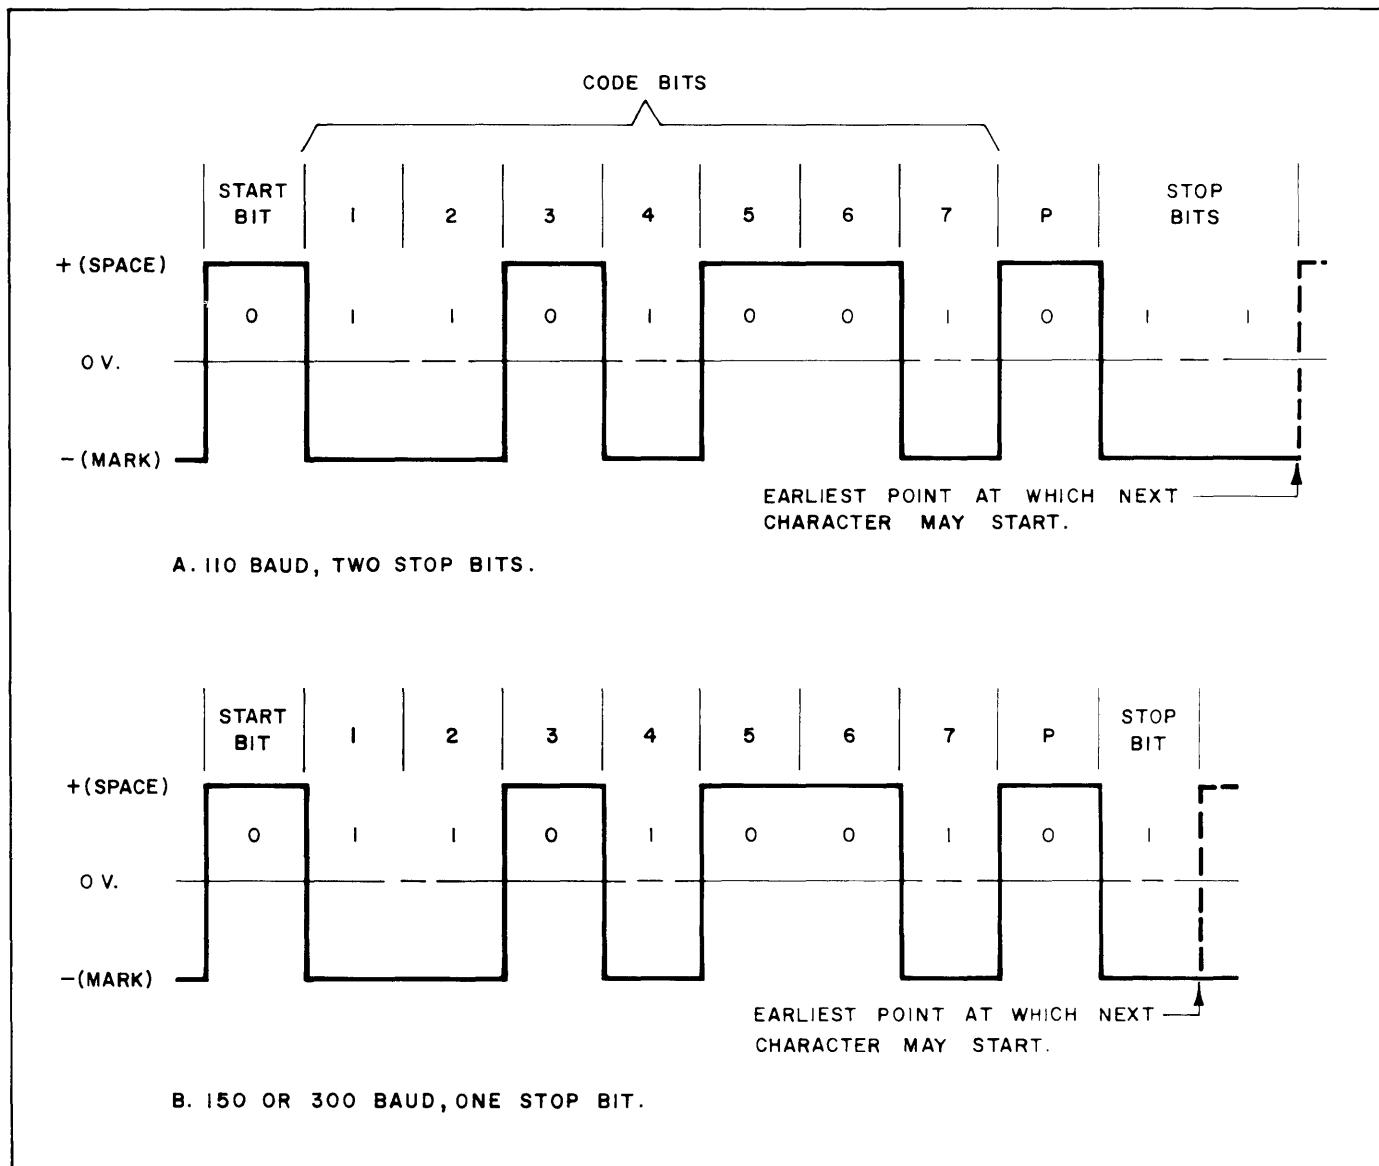

Figure 4-4. Data Format on Interface
Figure 4-4 is an idealized representation of an ASCII character (K) on the Transmitted Data or Received Data lines. Voltage levels are nominally  $\pm 12$  volts. Timing varies depending upon the baud rate selected. The idle condition of the line is mark. The beginning of a character is noted by the initial transition from mark to space (the start bit). The seven data bits follow, least significant bit first. Then comes the parity bit, followed by the stop bit(s).